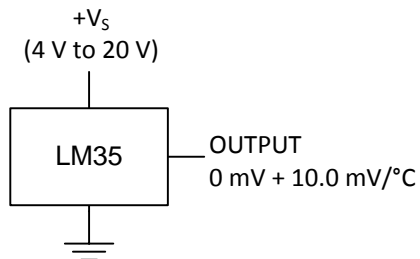

Figure 14. Basic Centigrade Temperature Sensor (2 °C to 150 °C)
Unless otherwise noted, these specifications apply: $-55^{\circ}\text{C} \leq T_J \leq 150^{\circ}\text{C}$ for the LM35 and LM35A; $-40^{\circ}\text{C} \leq T_J \leq 110^{\circ}\text{C}$ for the LM35C and LM35CA; and $0^{\circ}\text{C} \leq T_J \leq 100^{\circ}\text{C}$ for the LM35D. $V_S = 5\text{ Vdc}$ and $I_{\text{LOAD}} = 50\text{ }\mu\text{A}$, in the circuit of Full-Range Centigrade Temperature Sensor. These specifications also apply from 2°C to T_{MAX} in the circuit of Figure 14.
(6) Quiescent current is defined in the circuit of Figure 14.